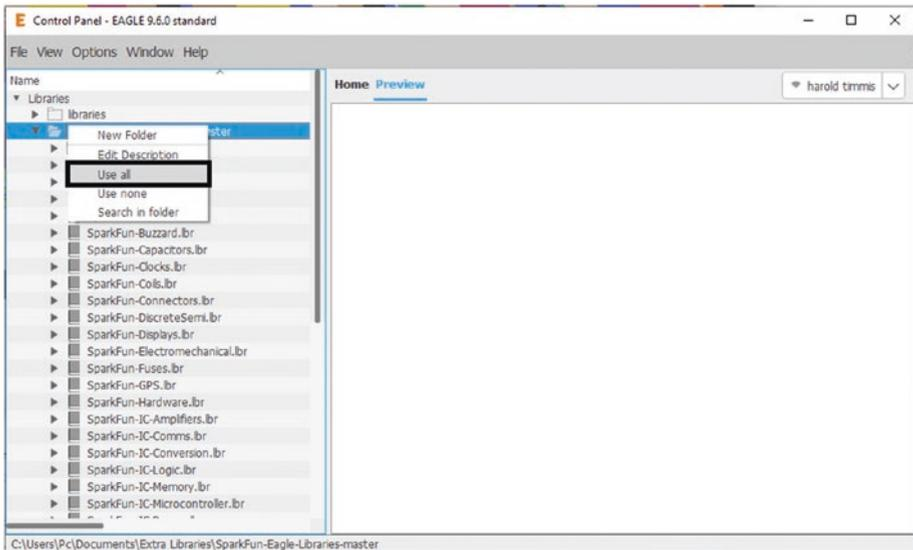

Figure 5-13. Select “Use all”
11. You should now see the SparkFun library. Right-click it and click “Use all.” One thing to note is that you will need to select “Use all” on each library when you want to use this for each project. See Figure 5-13.